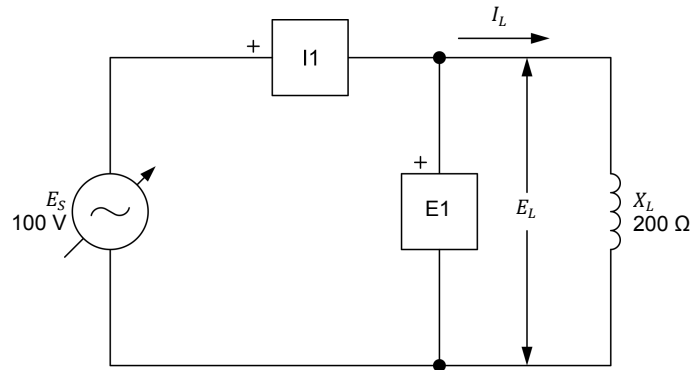

Figure 3-6. AC circuit containing an inductor and set up for power measurements.
23. Set up the circuit shown in Figure 3-6.